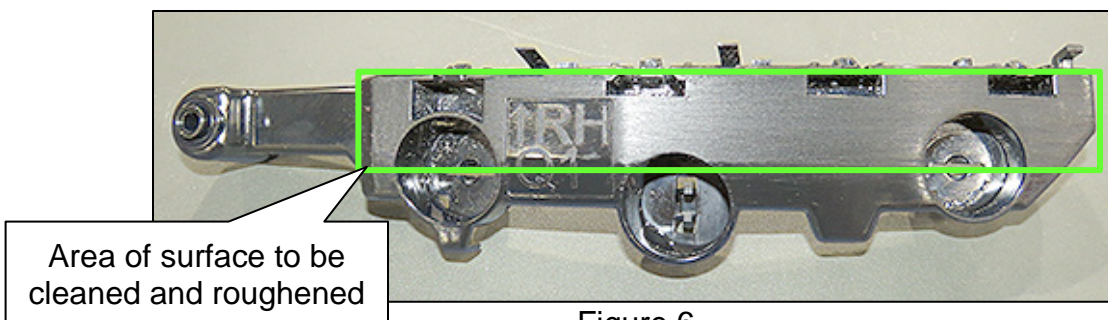

Figure 6
4. Clean and roughen the surface of the new side Front Bumper Fascia Side Bracket (BRACKET - FRONT BUMPER SIDE, RH/LH) where shown in Figure 6 with a piece of emery cloth, and then add primer.